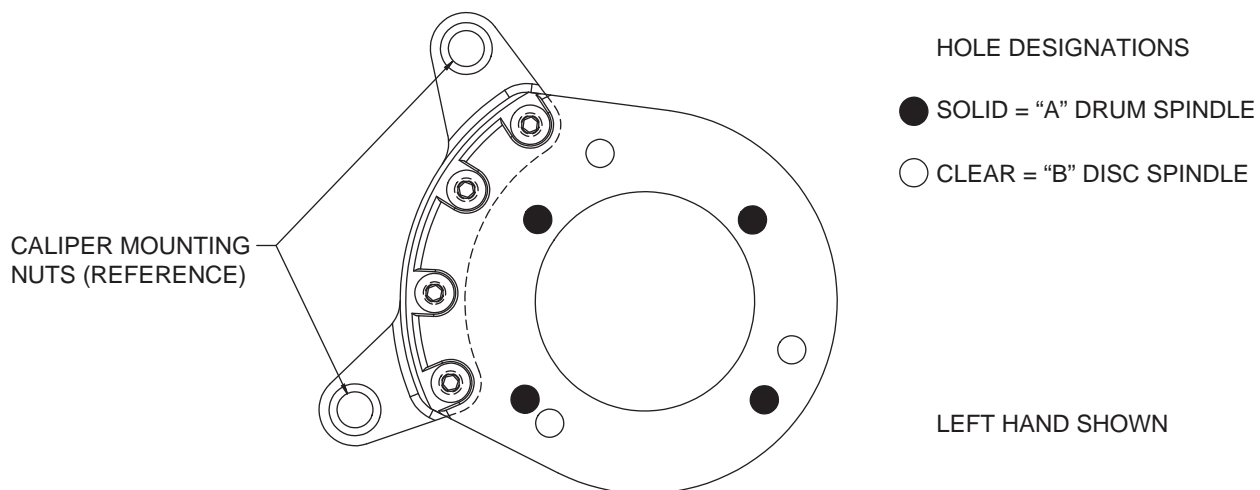
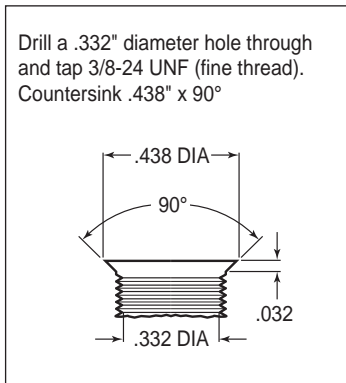

Figure 1. Wilwood Caliper Mounting Bracket
Figure 3. Drill and Tap Detail
This kit has been designed for use with both the disc brake or the drum brake configuration of vehicle. The only difference is in how the Wilwood caliper mounting bracket is installed. The same bracket is used for both configurations; the disc brake version utilizes three mounting holes while the drum brake application uses four mounting holes (see Figure 1). For your convenience we have supplied bolt kits for both applications (see parts list and Figure 2 as necessary). Use the bolt kit that is applicable to your vehicle and disregard the other one.
**NOTE:** This modification should be performed by a qualified machinist and completed before assembly of the Wilwood disc brake kit begins. Using the caliper mounting bracket as a template (refer to Figure 1 as necessary), locate and verify the three original holes on the spindle that need to be modified. Drill a .332" diameter hole through all three holes, then tap 3/8-24 UNF (fine thread). Countersink the holes to .438" diameter x 90°, as shown in Figure 3.
•**NOTE:** This kit uses the same mounting bracket (1) for both the drum and disc brake spindles. The drum version, Photo 1 uses four mounting bolts (designated "A"), while the disc version, Photo 2, uses three (designated "B"). Refer to Figures 1 and 2 for the basic installation position of the bracket and the "A" and "B" reference designations (not physically marked on the brackets).